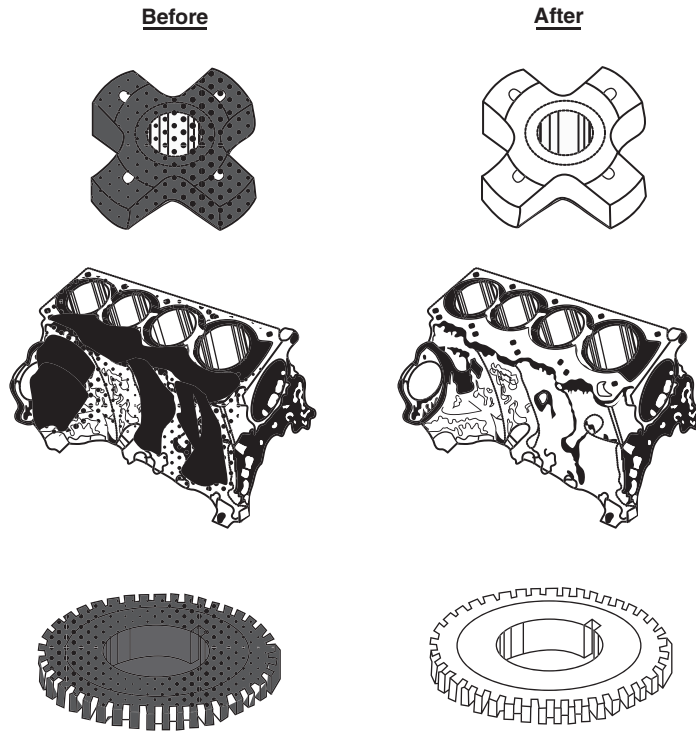

Figure 47 Degreasing step for surface preparation.
1. **Degreasing:** This step involves removal of organic impurities (greases) as shown in Figure 47. Solvent degreasing is a cleaning process that uses direct application of solvents for the removal of oil, grease, shop dirt, loose chips and other contaminants. The solvent is sprayed, brushed or wiped on the surface of the material, or the material is immersed in the solvent. The characteristics of this process are as follows: